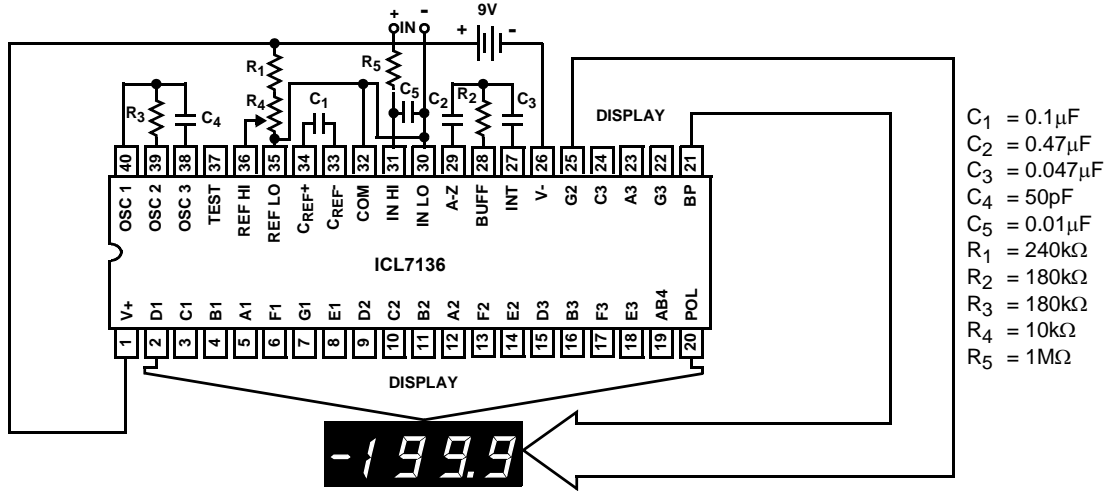

FIGURE 1. ICL7136 TEST CIRCUIT AND TYPICAL APPLICATION WITH LCD DISPLAY COMPONENTS SELECTED FOR 200mV FULL SCALE
3. Unless otherwise noted, specifications apply to the ICL7136 at $T_A = 25^\circ\text{C}$, $f_{CLOCK} = 48\text{kHz}$. ICL7136 is tested in the circuit of Figure 1.